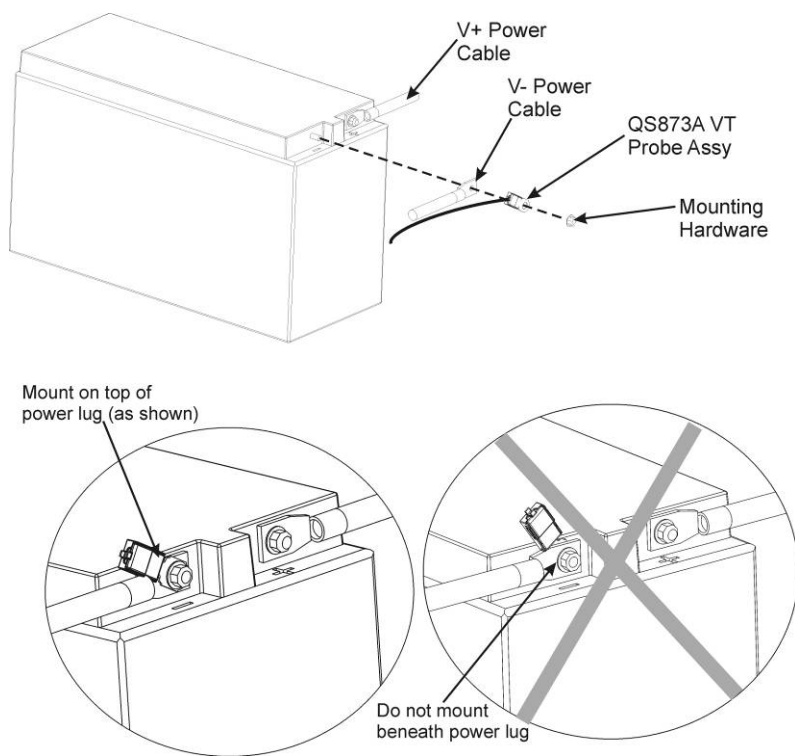

FIGURE 5: Thermal Probe Battery Connection
- Attach thermal probe to the negative (-) Post of the selected battery. See Figure 5.